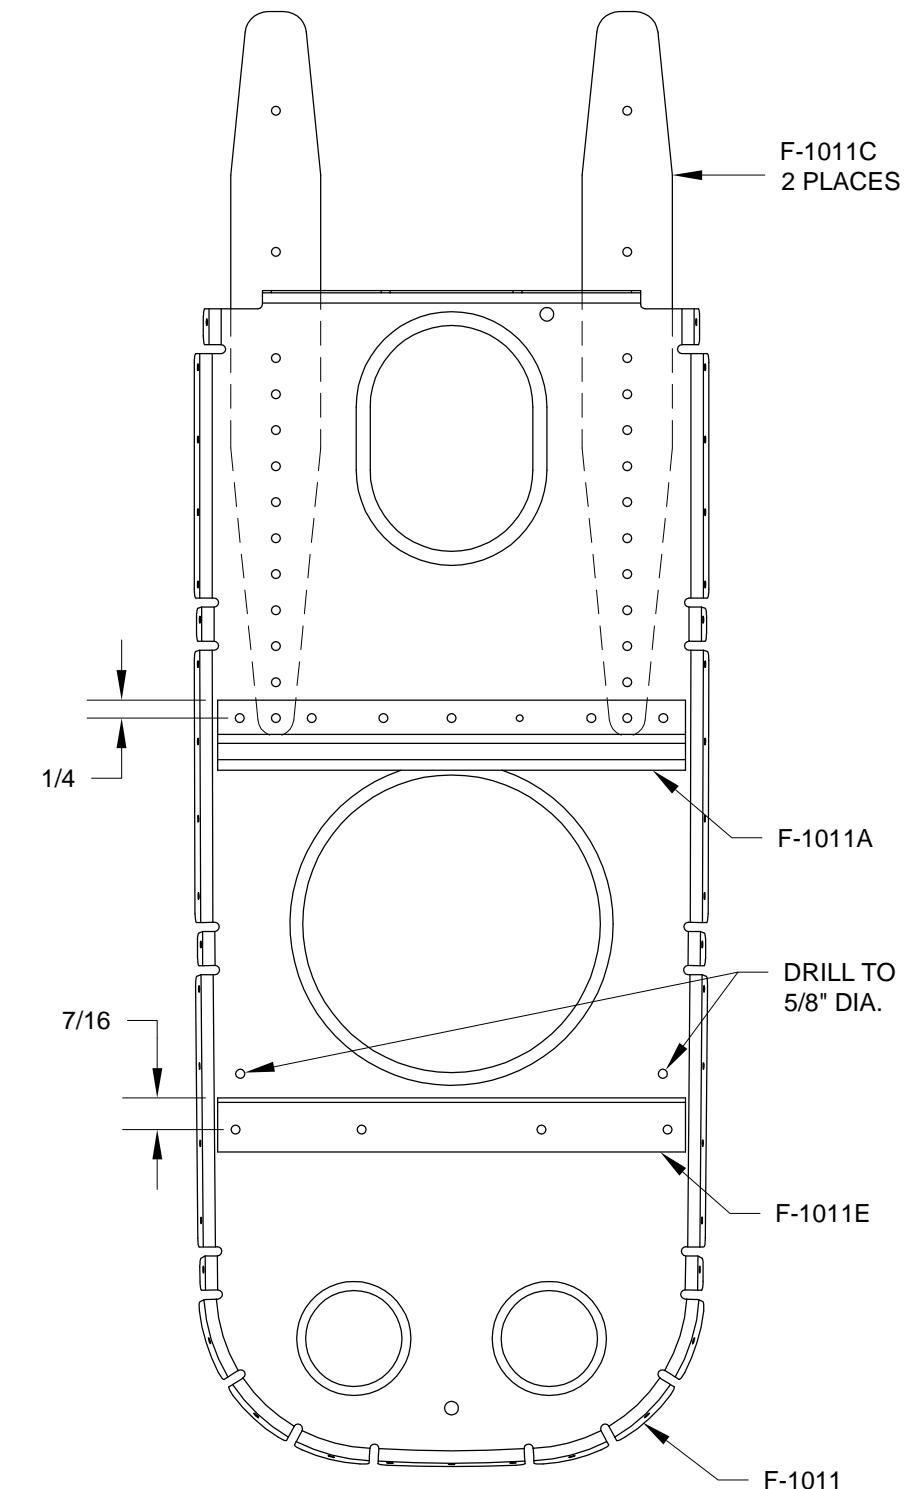

FIGURE 3: POSITIONING F-1011 BULKHEAD PARTS
Step 4: Drill the two $1/8"$ holes indicated in Figure 3 to $5/8"$ " using a Unibit step drill.
Step 5: Repeat Step 3 for locating and drilling the four holes used to attach the F-1011E Rudder Cable Angle. The top of the rudder cable angle is located $7/16"$ " above the holes in the F-1011 Bulkhead as shown in Figure 3.